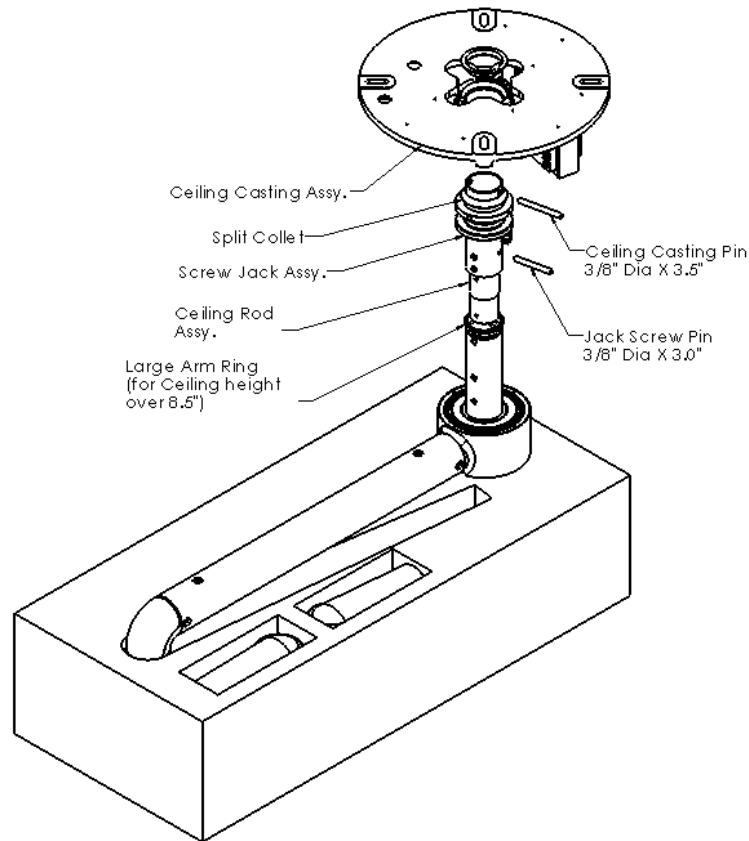

Figure 8. Installation setup
- Slide the jack screw assembly over the shaft, so that the 3" long dowel pin is fully seated into the notch on the jack screw. See figure 8.
- Slide one of the split tapered collets onto the shaft, tapered end pointed toward the end of the shaft. See figure 8.